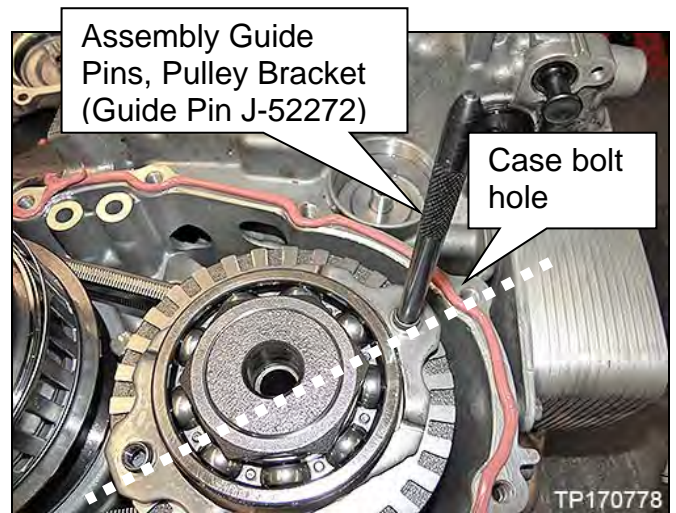

Figure 7U
- Place the guide pin next to the case bolt hole as shown in Figure 7U.